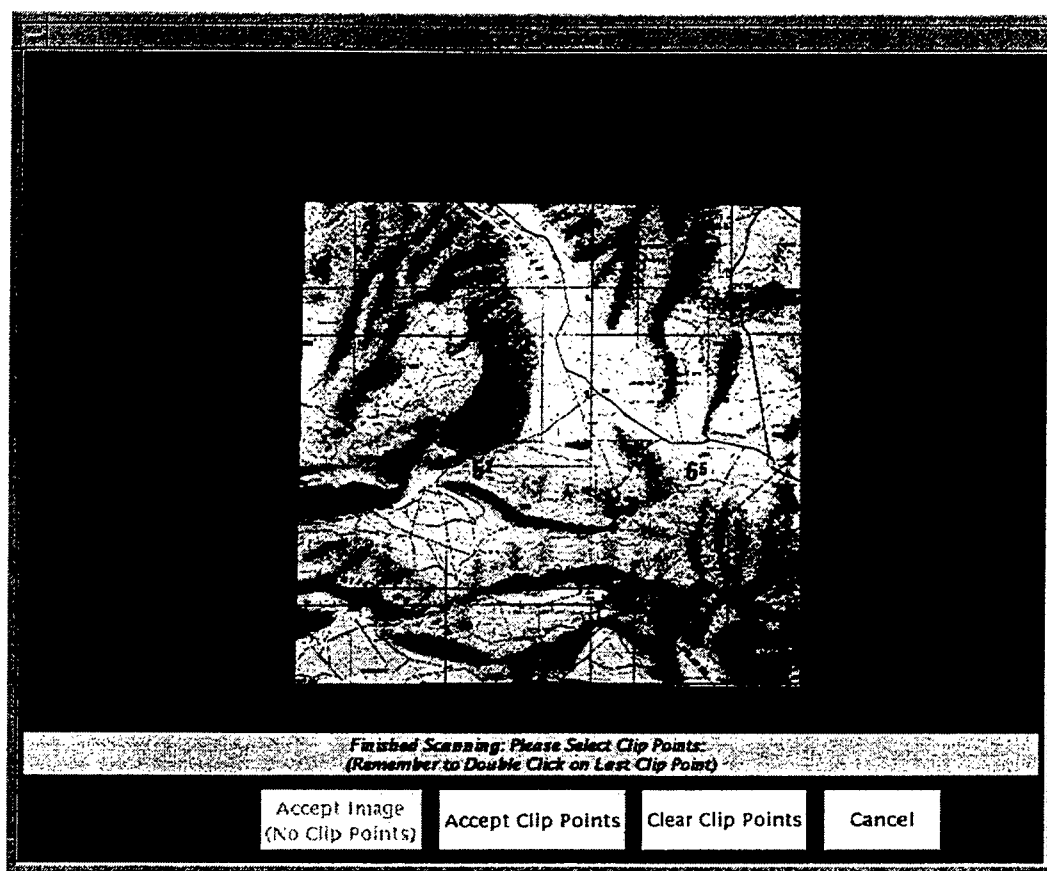

Fig. 56 — Scan Overview Window showing clipped image
- c) *Select clip points to trim the image:* position the cursor over the scanned image in the **Scan Overview Window**, and define a clipping polygon by clicking with the left (first) mouse button. MMC will draw a red line to show the clip region as the user selects each point. On the last clip point, double-click the mouse button to complete the clipping polygon; MMC will redraw the clipped image (Fig. 56). To start over, select the **Clear Clip Points** button at the bottom of the window. When the clip points are acceptable, select the **Accept Clip Points** button. To NOT clip the image, select **Cancel** at any time.